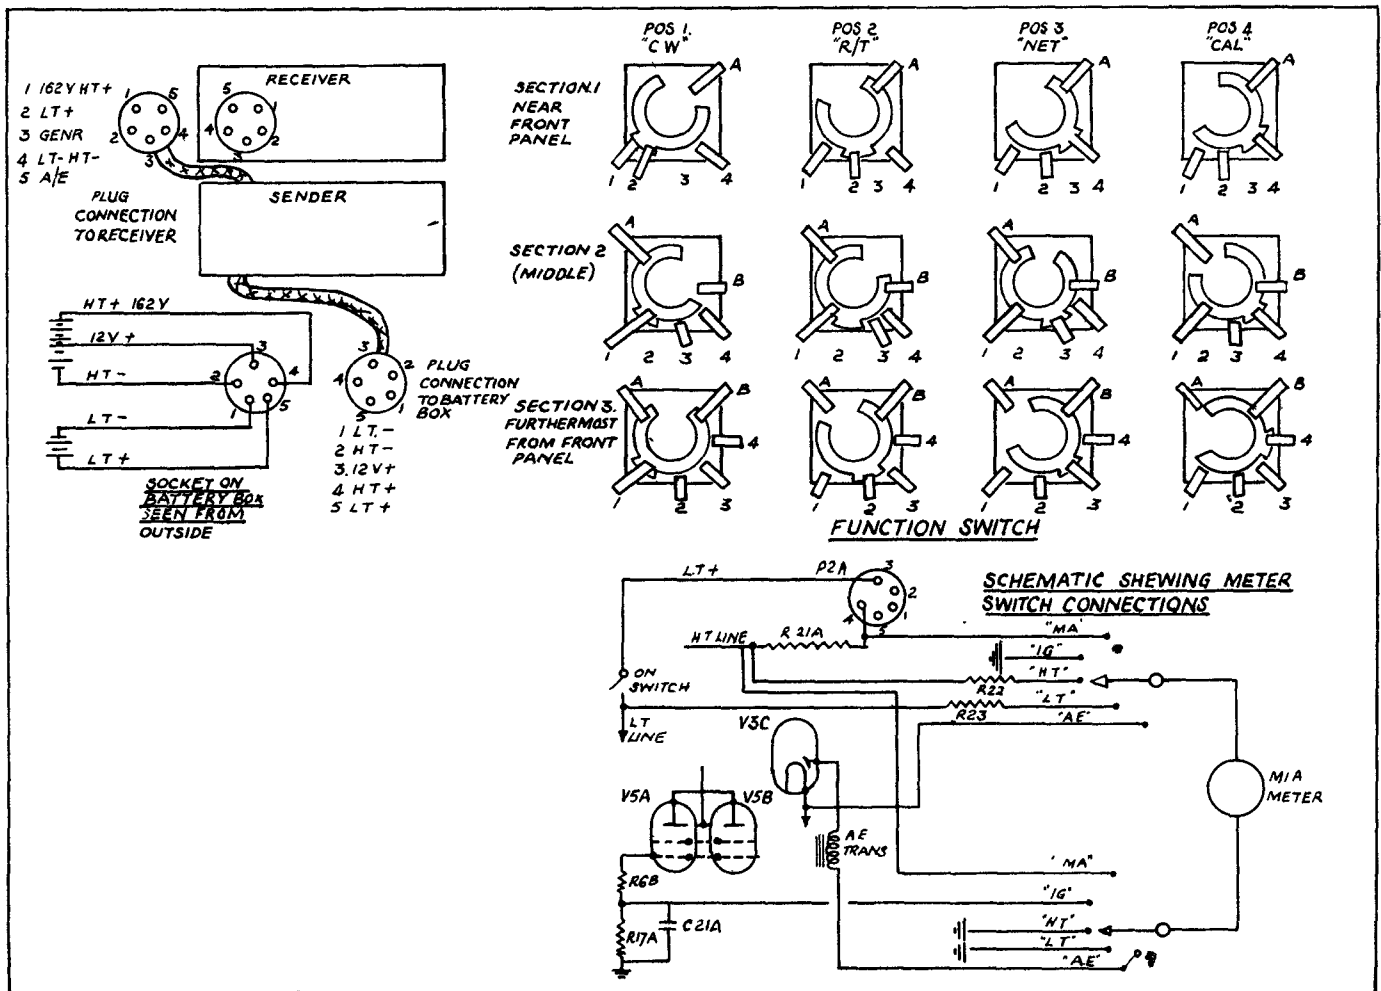

Fig. 2. Key to positions of function switch.
9. The METER SWITCH places the meter in any of the five positions (fig. 2).
10. The C.W.-PHONE-NET-CAL control knob operates three ganged rotary switches and has four positions (fig. 2). In the C.W. position the circuit connections are shown in skeleton form in fig. 5. The oscillator tuned circuit is coupled between the signal grid and filament (cathode) of